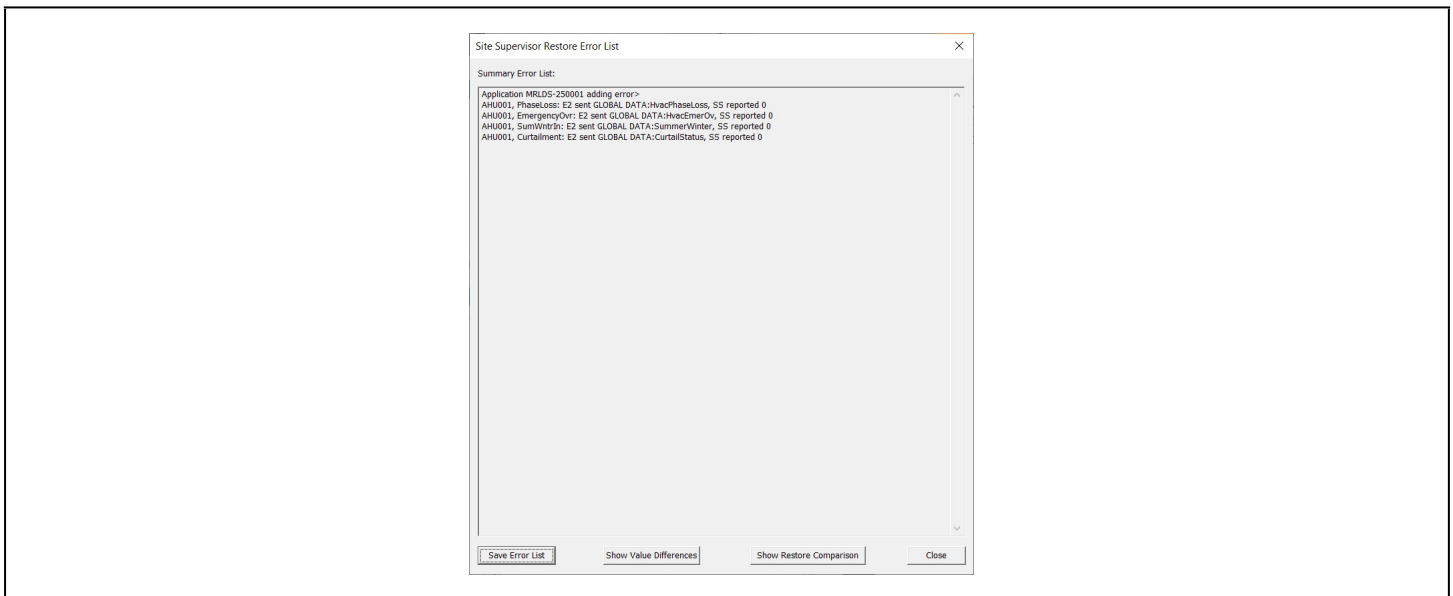

Figure 16 - Site Supervisor Restore Error List
The conversion tool can be expected to convert 80% or more of your E2 backup file. The conversion process will take between 10 to 20 minutes depending on the complexity of the backup file. You must do a side-by-side comparison of the E2 backup file and the newly converted Supervisor file to verify there are no errors. It will be necessary to review all setpoints and alarms for consistency in addition to the error log report and restore comparison log (see **Figure 16**) that is generated at the end of the conversion process to ensure your new system will run properly.
7. When completed, a **Site Supervisor Restore Error List (Figure 16)** will display and contain a Summary Error List of any of the following: